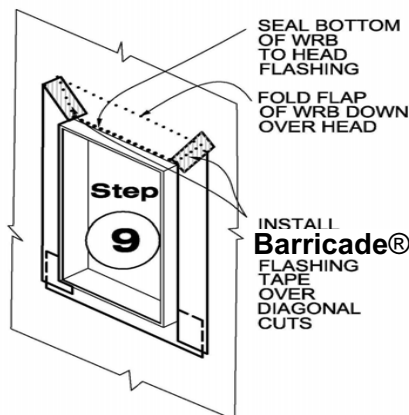

Figure 10 Unfold head flap, seal, and tape in place.
Step 9. Fold down flap of WRB at head over Barricade® or Polyken® head flashing tape. Seal bottom of WRB flap along full length of window head. Install WRB sheathing tape or Barricade® or Polyken® flashing tape over diagonal cuts (see Figure 10).